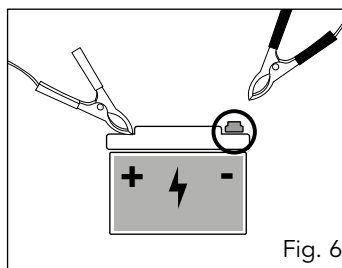

Fig. 6
3. Connect the black negative terminal clamp (-) (14) to the negative (-) pole on your vehicle 12V battery (fig. 6). Ensure both clamps are secure.